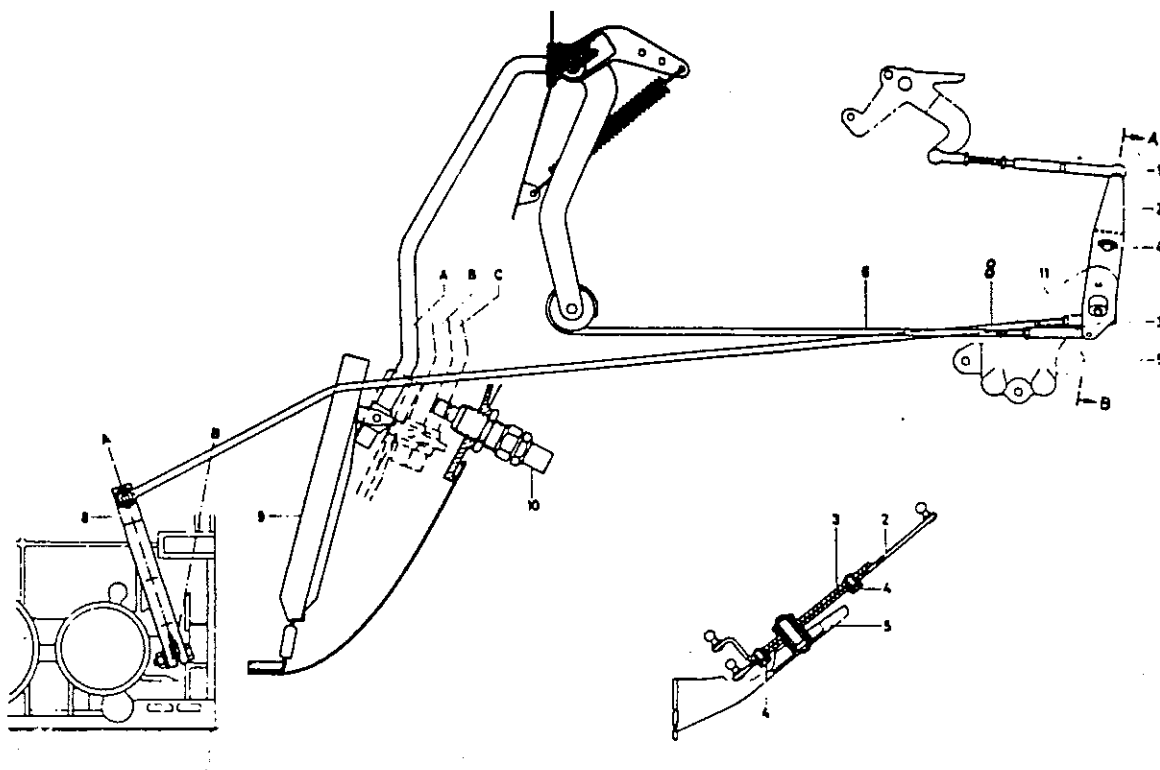

Figure 4
1. Depress the accelerator pedal (9) (Figure 4) until it bears against the kickdown switch; on vehicles with gasoline engine there must then be 5 mm clearance between throttle valve lever and full-load stop on the carburetor. On vehicles with diesel engine the throttle valve lever must be in contact with the full-load stop.
1. The intermediate lever #2 and notched lever #3 are held in relation to each other with two 10 mm hex head bolts, #4 and #4. (Figure 4)